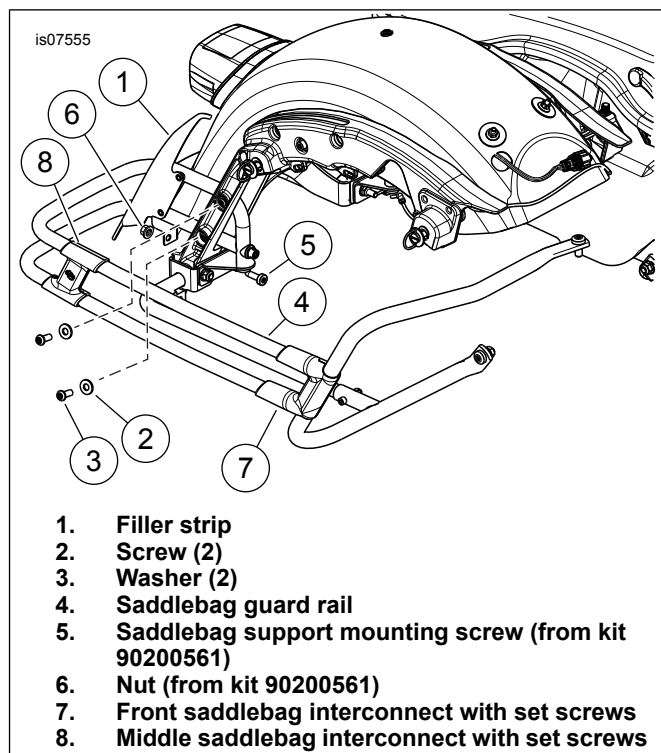

Figure 2. Slotted Filler Strip Installation
2. See Figure 2. Remove bottom saddlebag support mounting screw (5) and nut (6). Discard hardware.
3. Remove the front interconnect (7) and middle interconnect (8) from the rails. Keep the rails roughly parallel to one another.
7. Secure the filler strip with screws (2) and washers (3). Tighten screws finger tight.
8. See the saddlebag rail kit instruction sheet. Follow all remaining Saddlebag Guard Rail Kit installation instructions, including using the kit hardware that replaces fastener (5) and nut (6). Do not tighten filler strip mounting hardware.